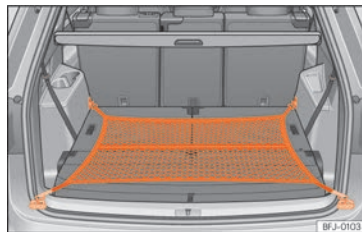

Fig. 128 In the luggage compartment: net bag hooked up at floor level.
- Secure the net hooks to the fastening rings » **Fig. 128** » **⚠**. The bag zip should be facing upwards.